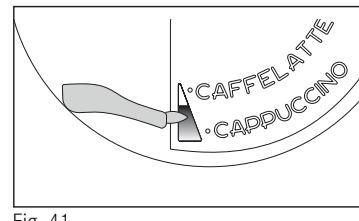

Fig. 41
- ▶ Position the frothed milk regulator (C1) between the words CAPPUCINO and CAFFELATTE printed on the milk container lid. The quantity of froth can be adjusted by moving the regulator towards the word CAFFELATTE for a denser froth. Moving it towards the word CAPPUCINO obtains a less dense froth (Fig. 41).